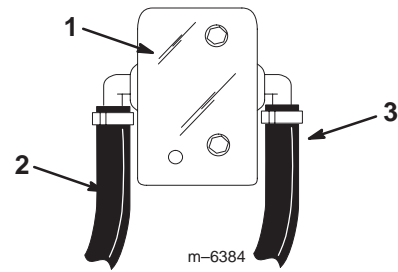

Figure 16
12. Connect the end of a short 1/2 inch hose to the open fitting on the S53 tee that you installed into the agitation hose and route it to the rear 1/2 inch barb on the small ball valve assembly (Fig. 16).
15. Connect the end of a short 1/2 inch hose to the open fitting on the S53 tee that you installed into the by-pass hose and route it to the front 1/2 inch barb on the small ball valve assembly (Fig. 16).